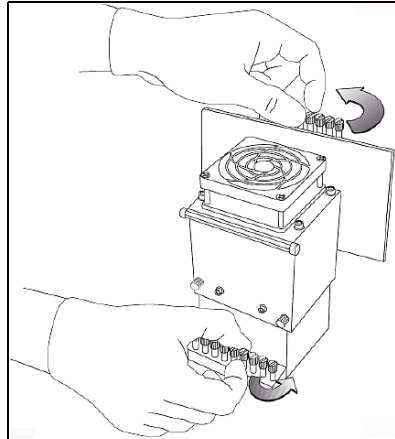

Figure 7-39: Releasing the locking screws
20. Tighten the upper and lower screws that secure the printing head in the printing block (see figure 7-39 on page 7-28).